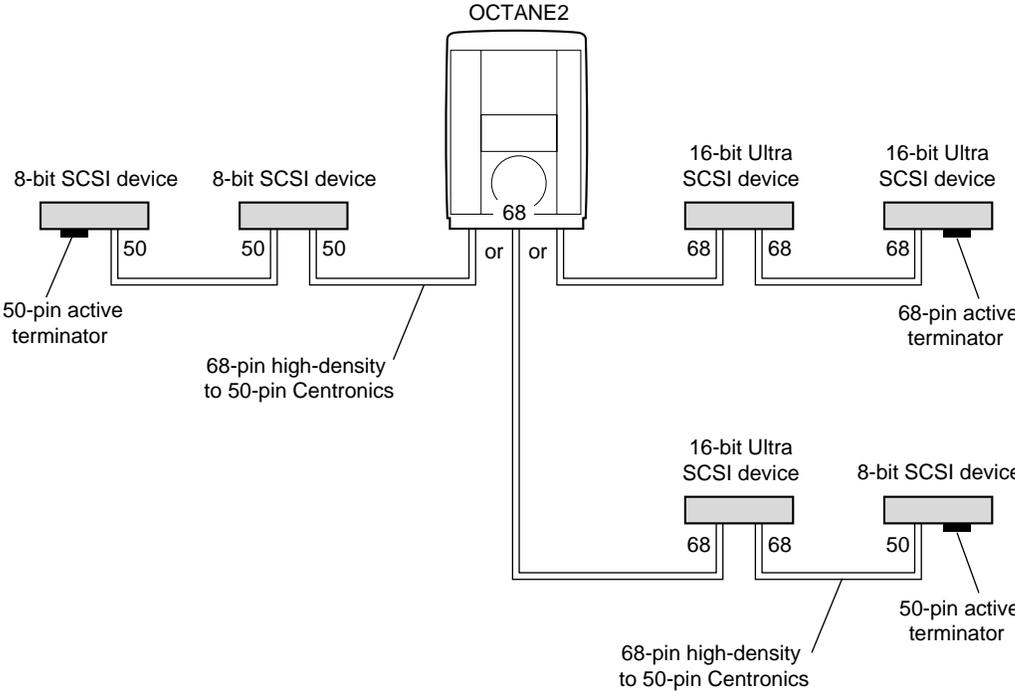

Figure 6-4 Using the Correct Cables between Devices and/or the Octane2 Workstation
- 2. Connect the fastest SCSI device or devices to your workstation and to each other, then connect slower devices at the end of the chain. See Figure 6-4.